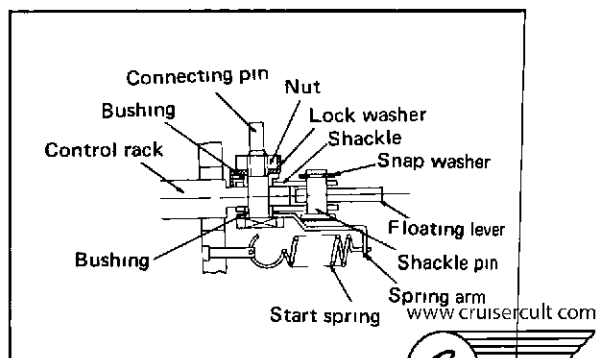

Fig 3-176 Floating Lever Assembly
1) First, assemble the shackle (54) onto the control rack.
As illustrated in Fig 3-176, for connection of both, install the bushings on both sides of the shackle, and install the spring arm (55) together with the connecting pin (57) and lock washer (52) (at this time, do not bend it), then temporarily tighten the nut.
- 2) Next, insert the connecting bolt (61) through the lower side of the floating lever (58), and install the snap washer.
- 3) Then, connect the floating lever top onto the shackle. At this time, as illustrated in Fig. 3-176, assemble the shackle pin (59) so that the head will be at the interior side. The shackle pin should be inserted lightly.
- 4) Move the floating lever top fully toward the front and rear of control rack stroke, and inspect the floating lever for smooth movement. Finally, tighten the connecting pin (57) nut properly, and bend the lock washer to secure the nut from loosening.